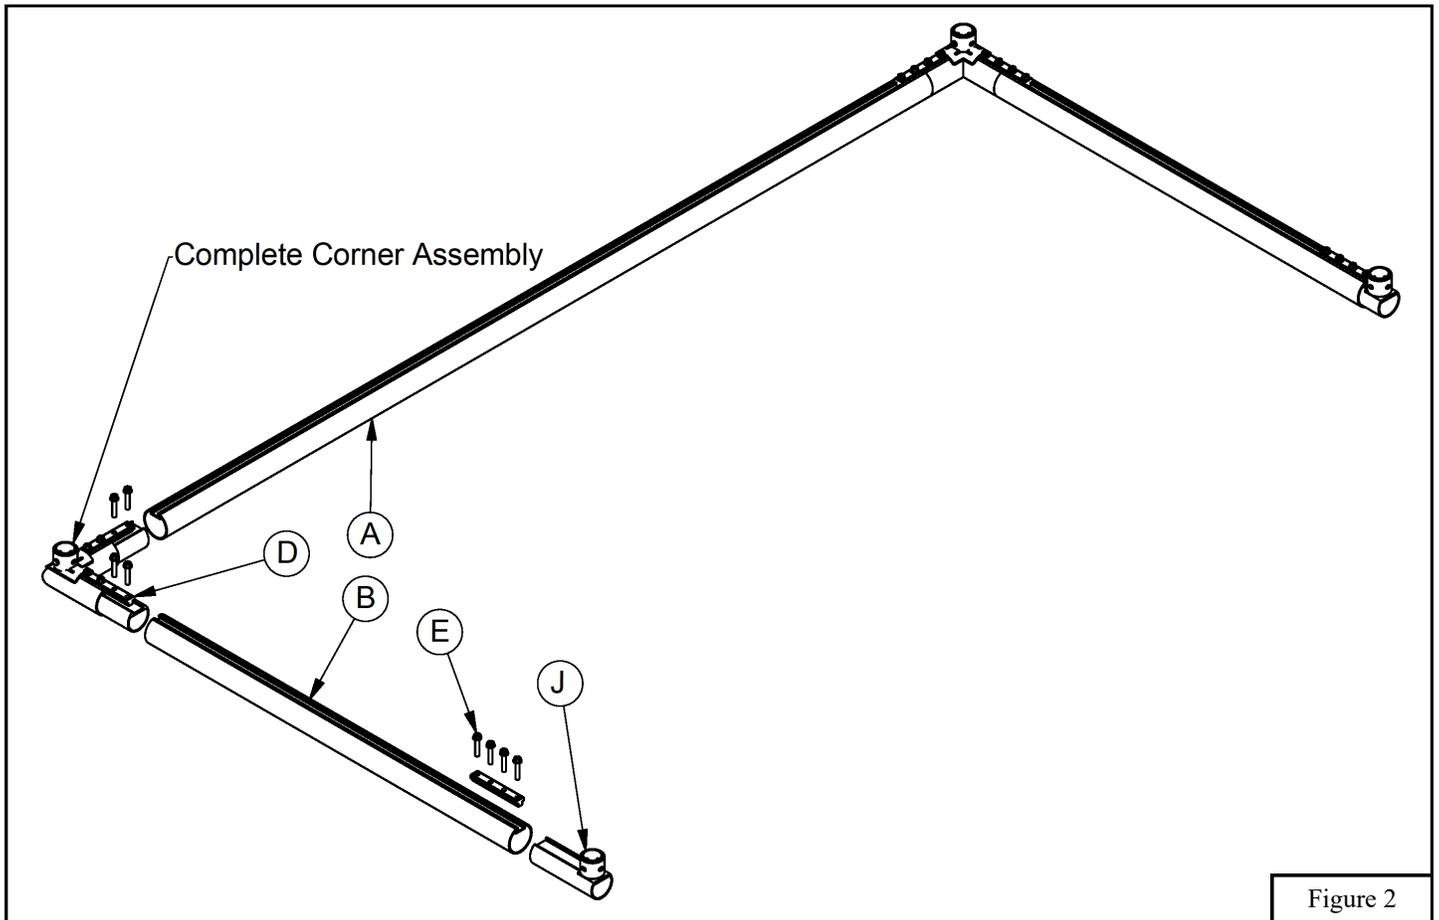

Figure 2
- Insert the complete corner assemblies into *Crossbar (A)* making sure the ends of the *Corner (I)* and *Crossbar (A)* are tight with no gap. Drill a 5/16" hole through each of the mounting holes in the *Connecting Bar (D)* through the assembly. Install the 3/8" X 2" *Self Threading Machine Screws (E)* into the previously drilled holes. Check to confirm *Corner (I)* and *Crossbar (A)* are tight with no gap then **tighten** all the 3/8" X 2" *Self Threading Machine Screws (E)*. Repeat 4 times per pair of goals. See Figure 2.
4. Insert *Bottom Backstay Socket* (J) into the bottom of *Upright* (B). Lay the *Connecting Bar* (D) into the channel flush with the bottom of *Upright* (B). Drill a $5/16''$ hole through one of the mounting holes in the *Connecting Bar* (D) completely through the assembly and install a $3/8'' \times 2''$ *Self Threading Machine Screw* (E) into the drilled hole. Check to confirm *Bottom Backstay Socket* (J) is fully engaged into the *Upright* (B) then repeat the process with $3/8'' \times 2''$ *Self Threading Machine Screws* (E). **NOTICE!** Use care when tightening the $3/8'' \times 2''$ *Self Threading Machine Screws* (E). **Do Not Over Tighten.** Repeat at 4 locations per pair of goals. See Figure 2.